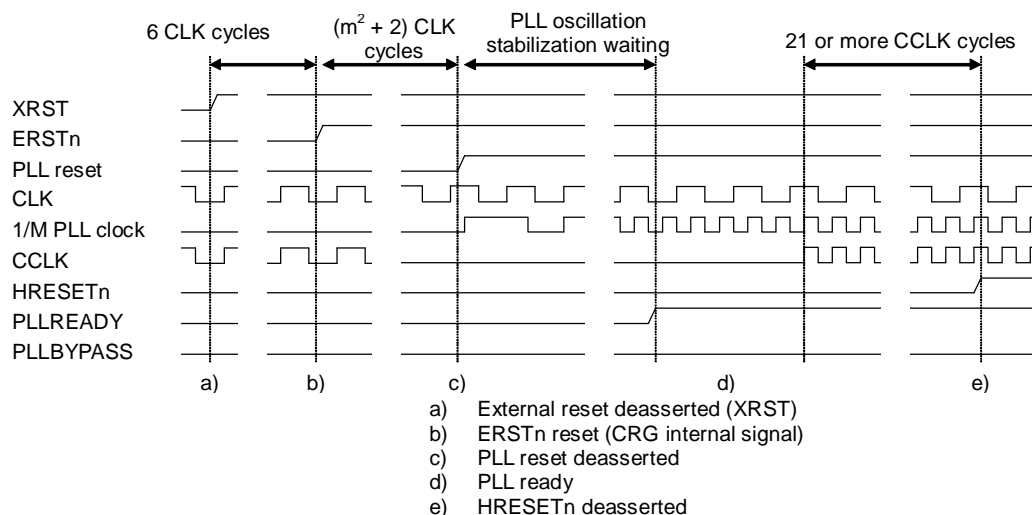

Figure 5-4 PLL oscillation stabilization waiting state after external reset
(1) External reset is asserted ("M" in Figure 5-4 and "m" of LUWMODE in the 5.4.2 PLL control register (CRPR))